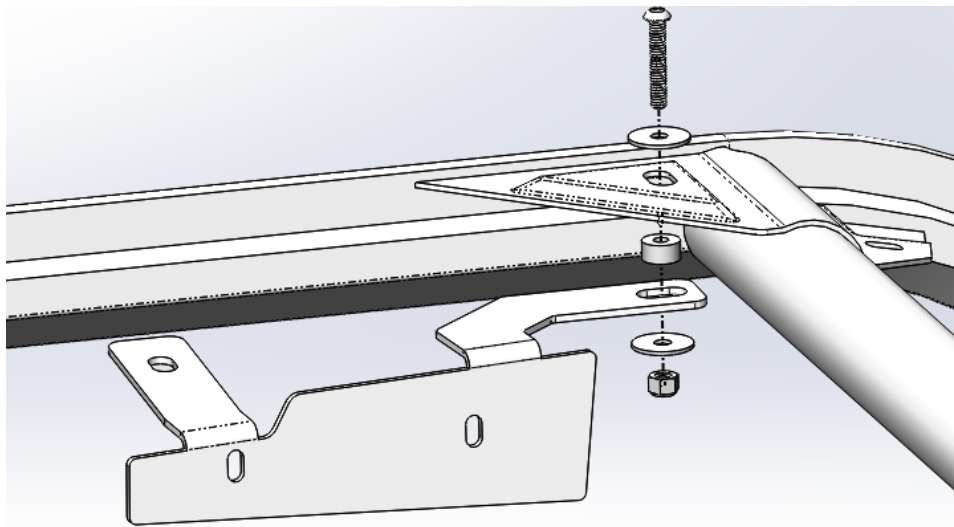
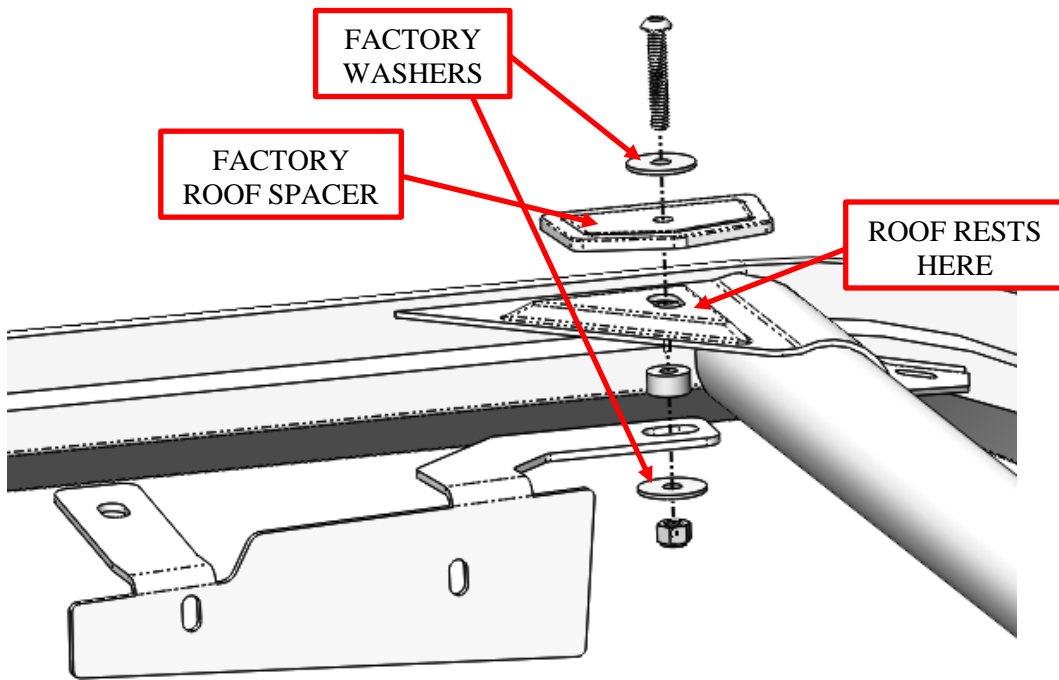
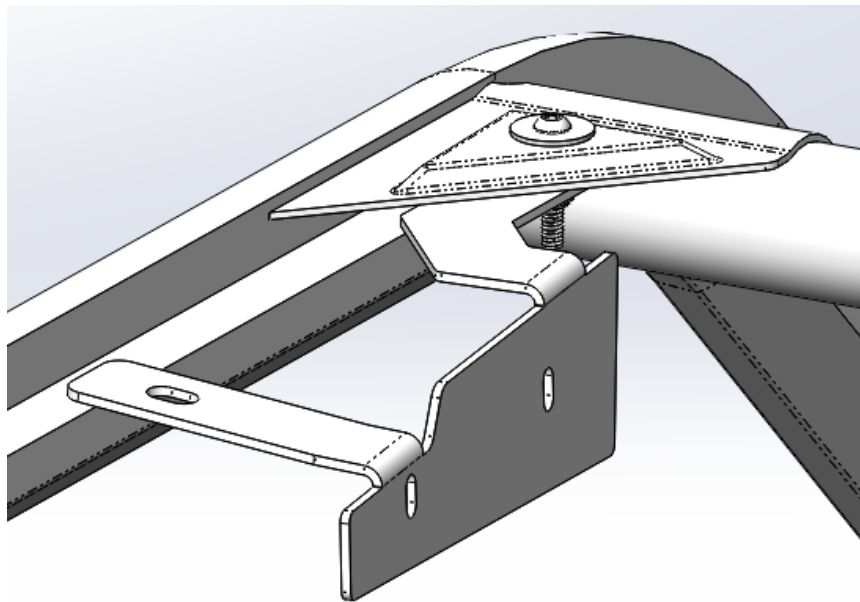

Figure 3: Audio Mini bracket mounting location. Driver side shown. (Passenger side similar)
Figure 4: *Audio Mini* bracket mounting location with factory roof components. Driver side shown. (Passenger side similar)
Figure 5: *Audio Mini* bracket loosely mounted on frame.
2. Place the driver's side bracket on the frame as shown below. Use the supplied $\frac{1}{4}$ "-20 button-head bolt, washers, spacer, and nut to mount the bracket. Loosely install the nut to still allow for adjustment of the *Audio Mini* placement. Verify correct orientation of the mounting bracket. See Figure 3, Figure 4, and Figure 5. **Note: Driver side shown. (Passenger side similar). Note: See Figure 4 if you have a factory roof. You will reuse the factory black washers and roof spacer.**